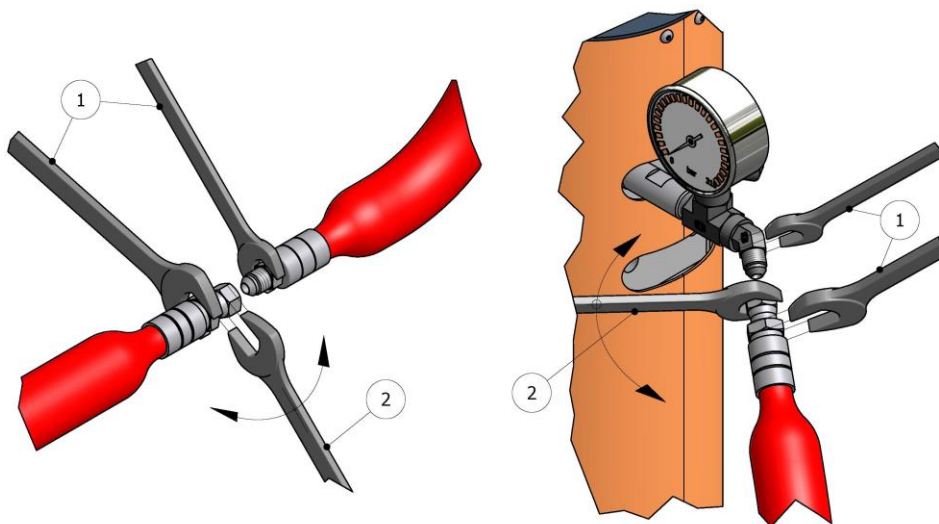

Figure 3. Method of union of the Hoses
**WARNING!** To join the hoses together or to connect them to the heaters or the gun, use two spanners to hold the parts to be joined (1) and a third spanner to tighten or loosen the connecting nut (2) as shown in the illustrations in Figure 3. The connections must be tightened to a torque indicated in Table 1 of pg.19.